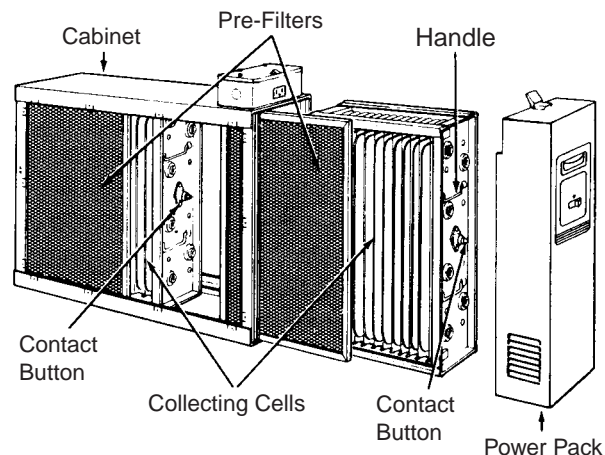

Figure 18
11. **With the cabinet Installed**, reinstall pre-filter(s) and collecting cell(s) (Figure 18).